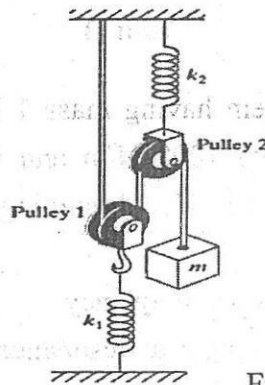

Fig. 1
1. (a) Determine the natural frequency of the system shown in Fig. 1. Assume the pulleys to be frictionless and of negligible mass. 8